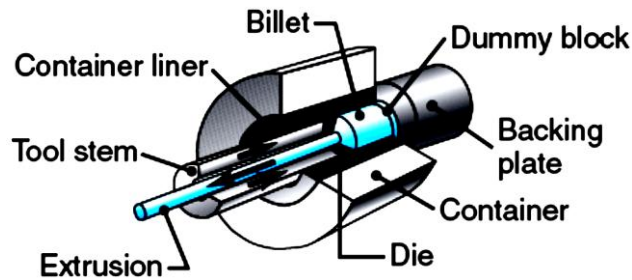

Figure 4: Extrusion of round bar
- b) Explain about the types of extrusion shown in figure 4 below.